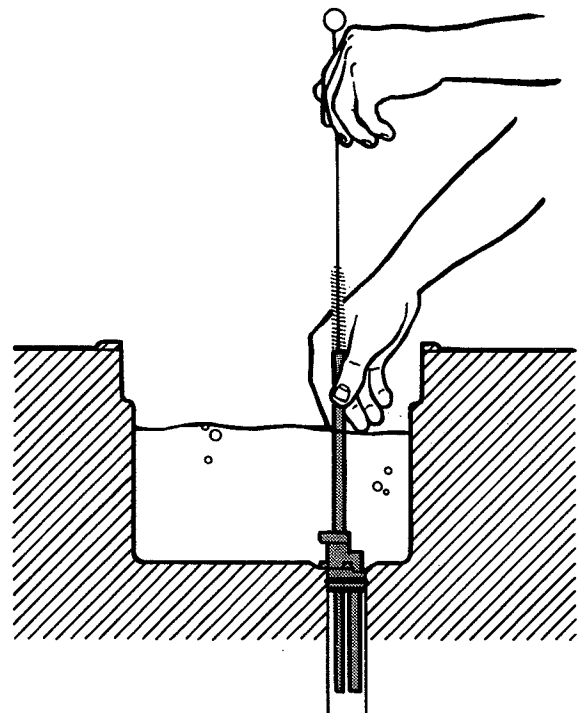

Figure 57. Sanitizing Carburetor
4. Run a sanitized brush down carburetor tubes (Fig. 57).